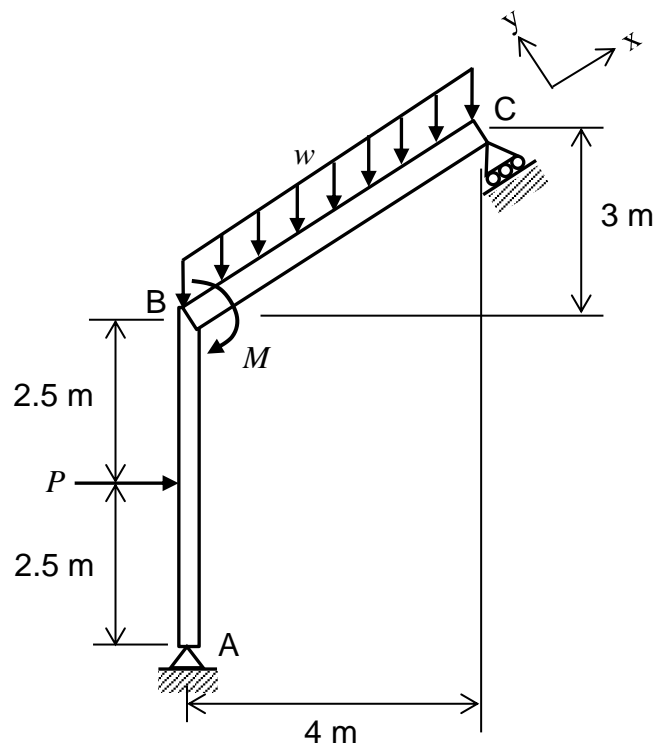

Figure 1
1. **Figure 1** shows a frame subjected to a concentrated moment of M at point B, a uniformly distributed load of w acting vertically along span BC and a point load of P at mid-span of span AB. Use the virtual work method to determine the slope at A and displacement at C along the inclined plane BC (x -axis). Take $E = 200$ GPa and $I = 100 \times 10^6$ mm⁴. Ignore the axial work. The values of all applied loads are given in **Table 1**.